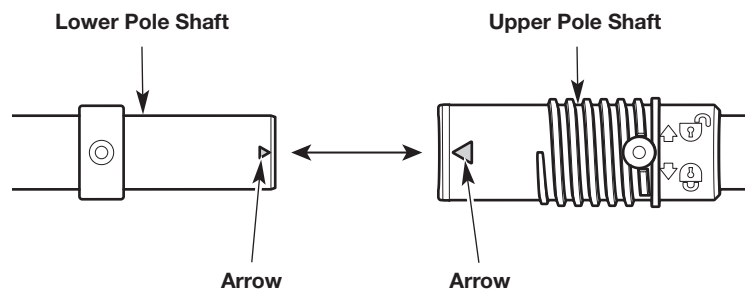

Fig. 1
1. Align the arrow on the lower pole shaft with the arrow on the upper pole shaft (Fig. 1).
2. Insert the lower pole shaft into the upper pole shaft (Fig. 1).
2. Remove the lower pole shaft from the upper pole shaft (Fig. 1). This may require a firm pull.